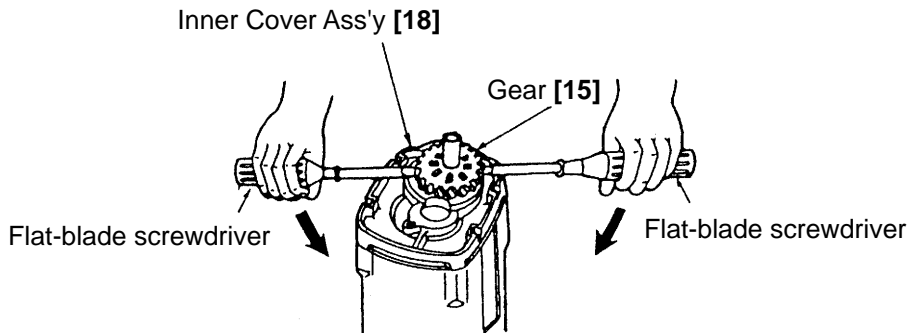

Fig. 5
- (1) Remove the Gear Cover Ass'y [9] and the Inner Cover Ass'y [18], then the Socket (A) Ass'y [11], Gear [15] and Clutch Disc [13] can be removed. If the Gear [15] is hard to remove, lightly tap the end surface of the Inner Cover Ass'y [18] with a wood hammer. Be careful not to lose the Spring [14] on the outer circumference of the Gear [15] and the Washer (A) [17]. As shown in Fig. 5, insert two flat-blade screwdrivers between the Inner Cover Ass'y [18] and Gear [15] at each side and remove the Gear [15] and Ball Bearing [16] from the Inner Cover Ass'y as a single unit.